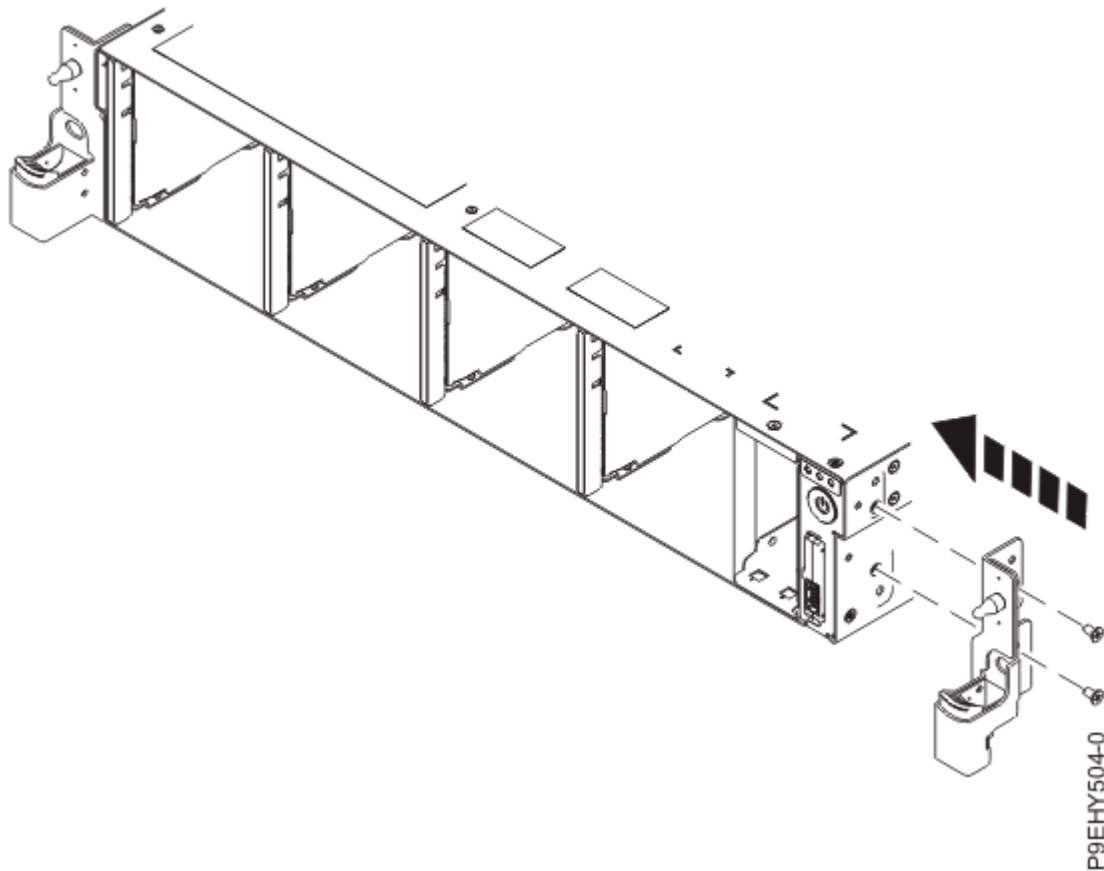

Figure 112. Replacing the rack installation support
7. Replace the rack installation support on the side of the system as shown in Figure 112 on page 125.